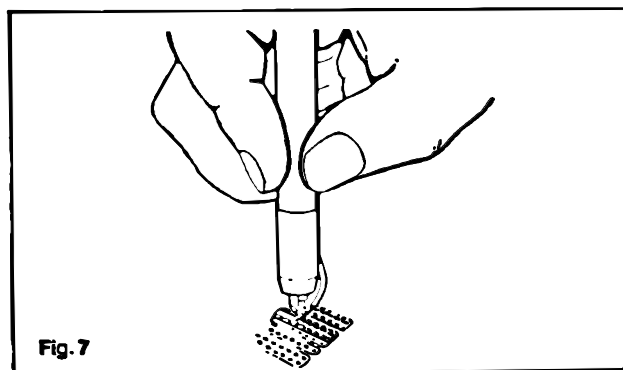

Fig. 7
2. Insert wire in desired contact slots by following the procedures and precautions outlined in the use of 3522 tool. (Figure 7)